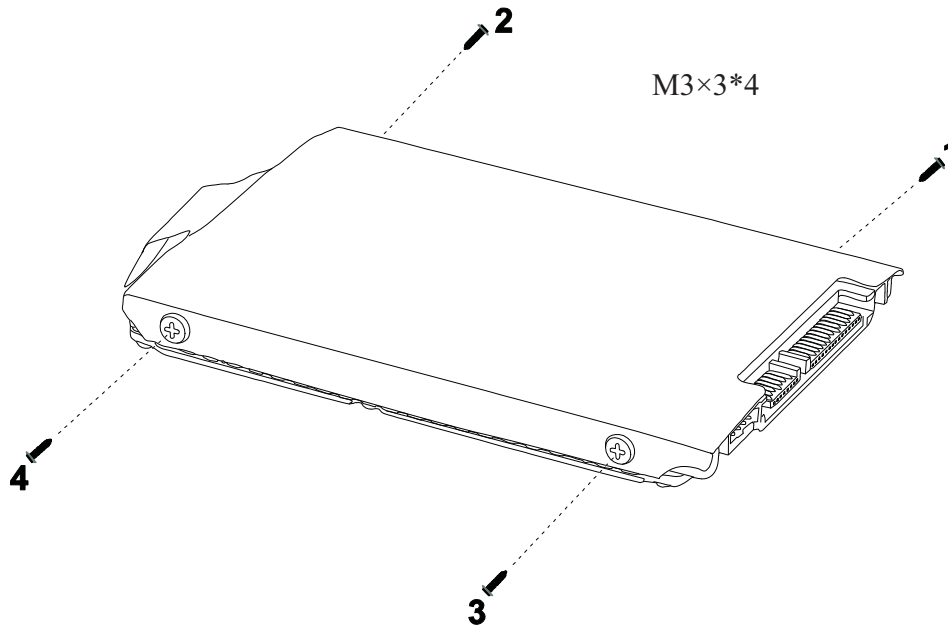

Figure 4-5 Installing the HDD aluminum foil
2. Secure the HDD aluminum foil to the HDD with four M3x3 screws according to the sequence indicated in Figure 4-5.